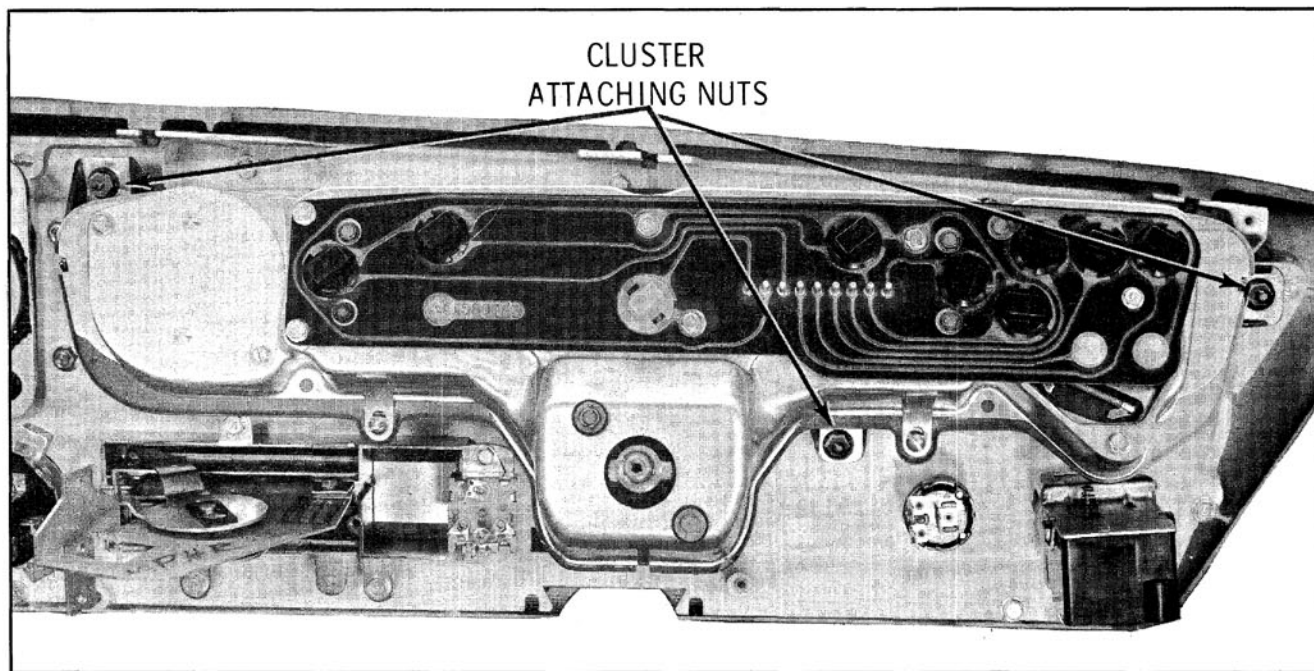

Fig. 12-105 Instrument Cluster
4. Remove the three cluster attaching nuts and remove cluster. (Fig. 12-105)